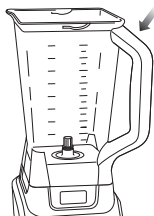

Fig. 3a
- 5 The pitcher can be placed on the motor base two ways; the handle can be on the front right corner or the front left corner. **(Fig. 3a, Fig. 3b)**